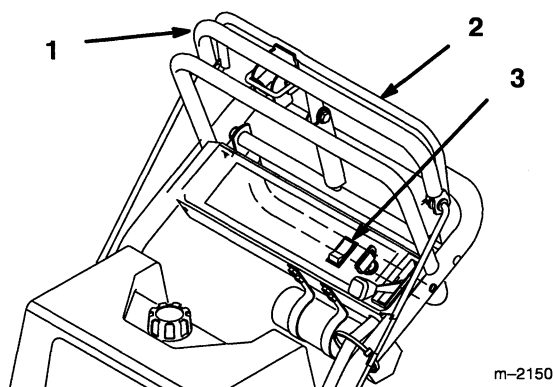

Figure 13
1. Pull on the upper control bar to stop the machine (Fig. 13).
1. Releasing blade control bail to disengage blades (PTO) (Fig. 13).
2. Or push the blade control switch (PTO) to the "OFF" position (Fig. 13).